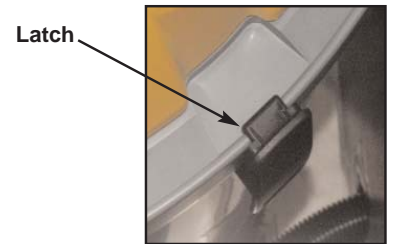

figure 1
3. Remove the Vacuum system cover and open the vacuum system by releasing the two (2) latches and removing the vacuum head. (*see figure 1*)